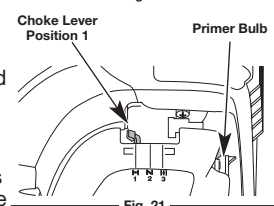
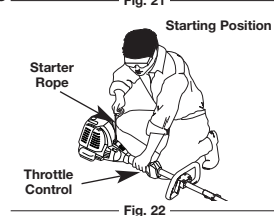

Fig. 21
Fig. 22
WARNING: Avoid accidental starting. Make sure you are in the starting position when pulling the starter rope (Fig. 22). To avoid serious injury, the operator and unit must be in a stable position while starting. Make sure that any Add-On item is installed correctly and secure before starting the unit.
3. Fully press and release the primer bulb 10 times, slowly. Some amount of fuel should be visible in the primer bulb and fuel lines (Fig. 21). If you can't see fuel in the bulb, press and release the bulb as many times as it takes before you can see fuel in it.
4. Place the choke lever in **Position 1** (Fig. 21).
5. Crouch in the starting position (Fig. 22). Press the throttle lockout in and squeeze the throttle control lever. Pull the starter rope 5 times.
6. Place the choke lever in **Position 2** (Fig. 21).
9. Continue squeezing the throttle control, move the choke lever to **Position 3** (Fig. 21) and continue warming the engine for an additional 60 seconds. The unit may be used during this time.
IF...the engine hesitates, return the choke lever to **Position 2** (Fig. 21) and continue warm-up.
3. Fully press and release the primer bulb 10 times, slowly. Some amount of fuel should be visible in the primer bulb (Fig. 21). If fuel cannot be seen in the bulb, press and release the bulb until fuel is visible.
4. Move the choke lever to **Position 1** (Fig. 21).
5. Crouch in the starting position (Fig. 22). Place the electric starter or drill into the back of the unit. Refer to the Operation section of the Electric Starter or Power Start Bit operator's manual.
6. Press the throttle lockout in and squeeze the throttle control lever. Press and hold the electric starter or drill **ON (I)** button for 2 seconds.
7. Move the choke lever to **Position 2** (Fig. 21).
8. Press the throttle lockout in and squeeze the throttle control lever, press and hold the electric starter or drill **ON (I)** button for 2-second intervals until the unit starts.
10. Continue squeezing the throttle control, move the choke lever to **Position 3** (Fig. 21) and run the unit for an additional 60 seconds. The unit may be used during this time.